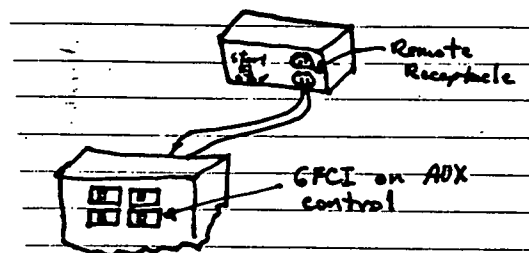

FIGURE 5. Connecting Remote Panel AC Duplex Receptacle to GFCI Circuit Breaker in Set Control Panel
4. All AC duplex receptacles MUST be connected to the Ground FAULT Circuit Breaker in the generator set control panel including the remote control panel AC duplex receptacle. See Figure 5.